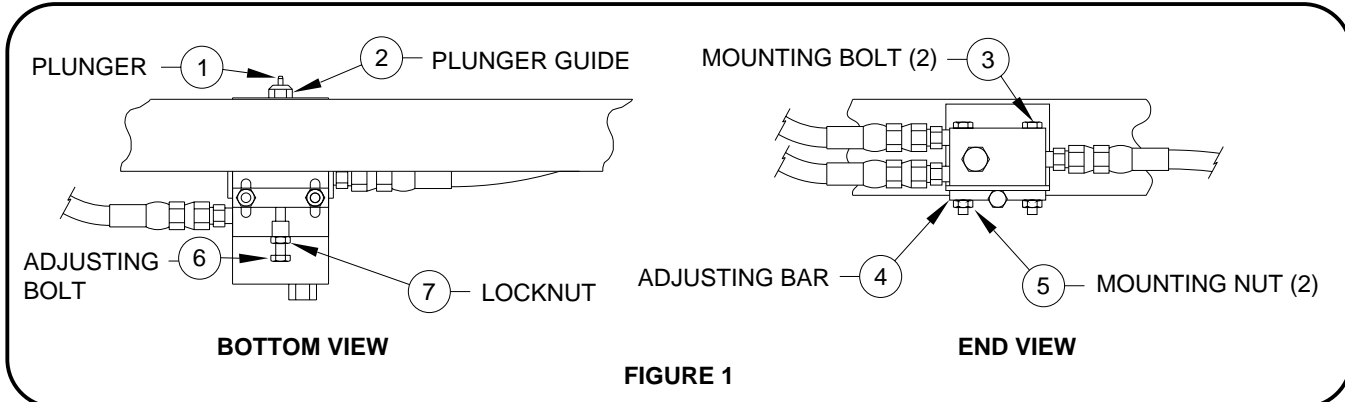
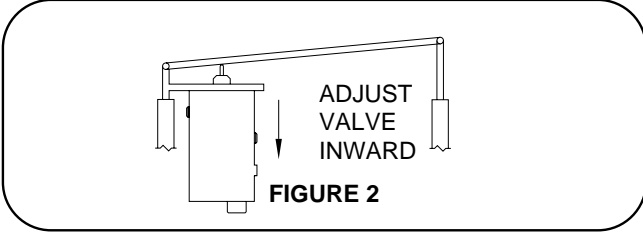

FIGURE 1
FIGURE 2
- Loosen the rack sensing mounting bolts. (3 & 4, FIGURE 1)
- Remove the adjusting bolt and lock nut. (6 & 7, FIGURE 1)
- Remove the three hydraulic lines from the valve. Remove the mounting bolts and valve adjusting bar. (5, FIGURE 1)
Adjust the valve so that approximately one half the plunger (1, FIGURE 1) is showing. Close the valve release "T" handles. Make the final adjustment of the rack sensing valve. (See the ADJUSTMENT procedure below). Tighten the mounting bolts and check for leaks and the fluid level in the power unit.
rack sensing valve in or out using the valve adjusting bolt. (6, FIGURE 1) Loosen the rack sensing valve mounting bolts (3&5, FIGURE 1) and the adjusting lock nut. (7, FIGURE 1) Do not tighten these until the adjustment is complete. Refer to FIGURE 2 or 3 depending on which side of the room is leading, for the proper adjustment of the valve.
If the valve side of the room is moving at a closer distance to the vehicle (FIGURE 2) turn the adjusting bolt (6, FIGURE 1) counter clockwise 1 turn. **NOTE** : If the difference is minor, less than 1 turn may be appropriate. Extend the room an additional 12 inches. Retract the room that 12 inches and check the measurement. Repeat this procedure as necessary. The difference in the measurement should be 1/2 an inch or less. Tighten the mounting bolts and adjusting lock nut when the adjustment is complete.